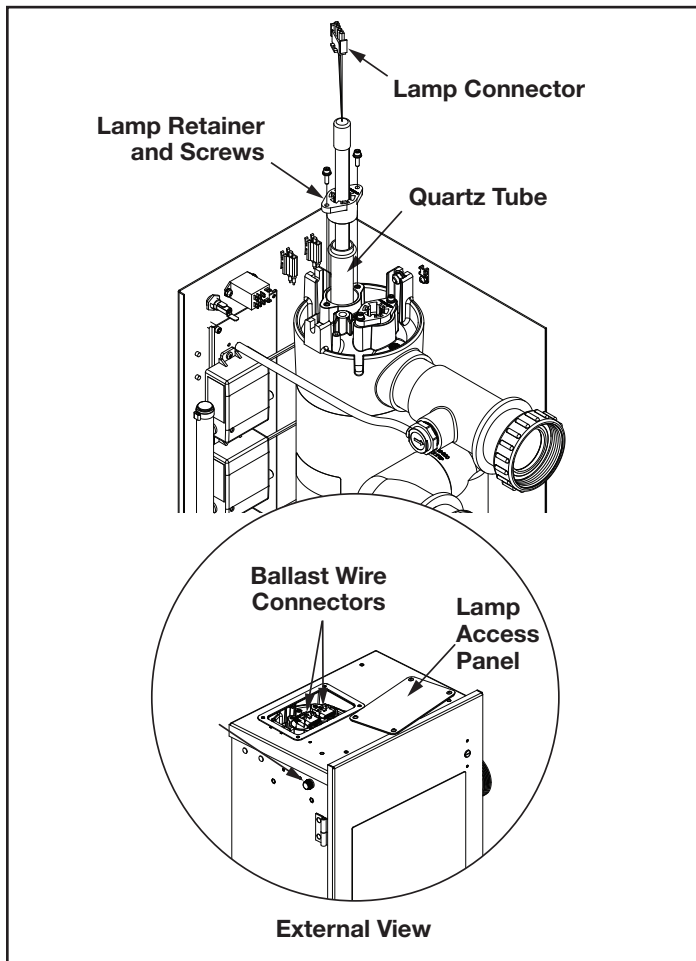

Figure 6. UV Reactor Sub-Assembly
2. Use a Phillips-head screwdriver to remove the four (4) screws holding the access cover. See Figure 6.
4. Disconnect the lamp connectors from the ballast wire connectors. Then grasp the UV lamp wires and gently pull until the top of the UV lamp has pulled past the lamp retainer tabs. See Figure 6.
9. Secure the UV lamp access panel using the four (4) screws once the system is operational.
2. Locate the UV lamp access panel on the top of the Jandy AOP system. Remove the four (4) screws with a Phillips head screwdriver, and remove the panel. See Figure 6.
4. Locate the UV lamp access panel on the top of the Jandy AOP system. Remove the four (4) screws with a Phillips head screwdriver, and remove the panel. See Figure 6 External View.
6. Disconnect the lamp connectors from the ballast wire connectors. See Figure 6.